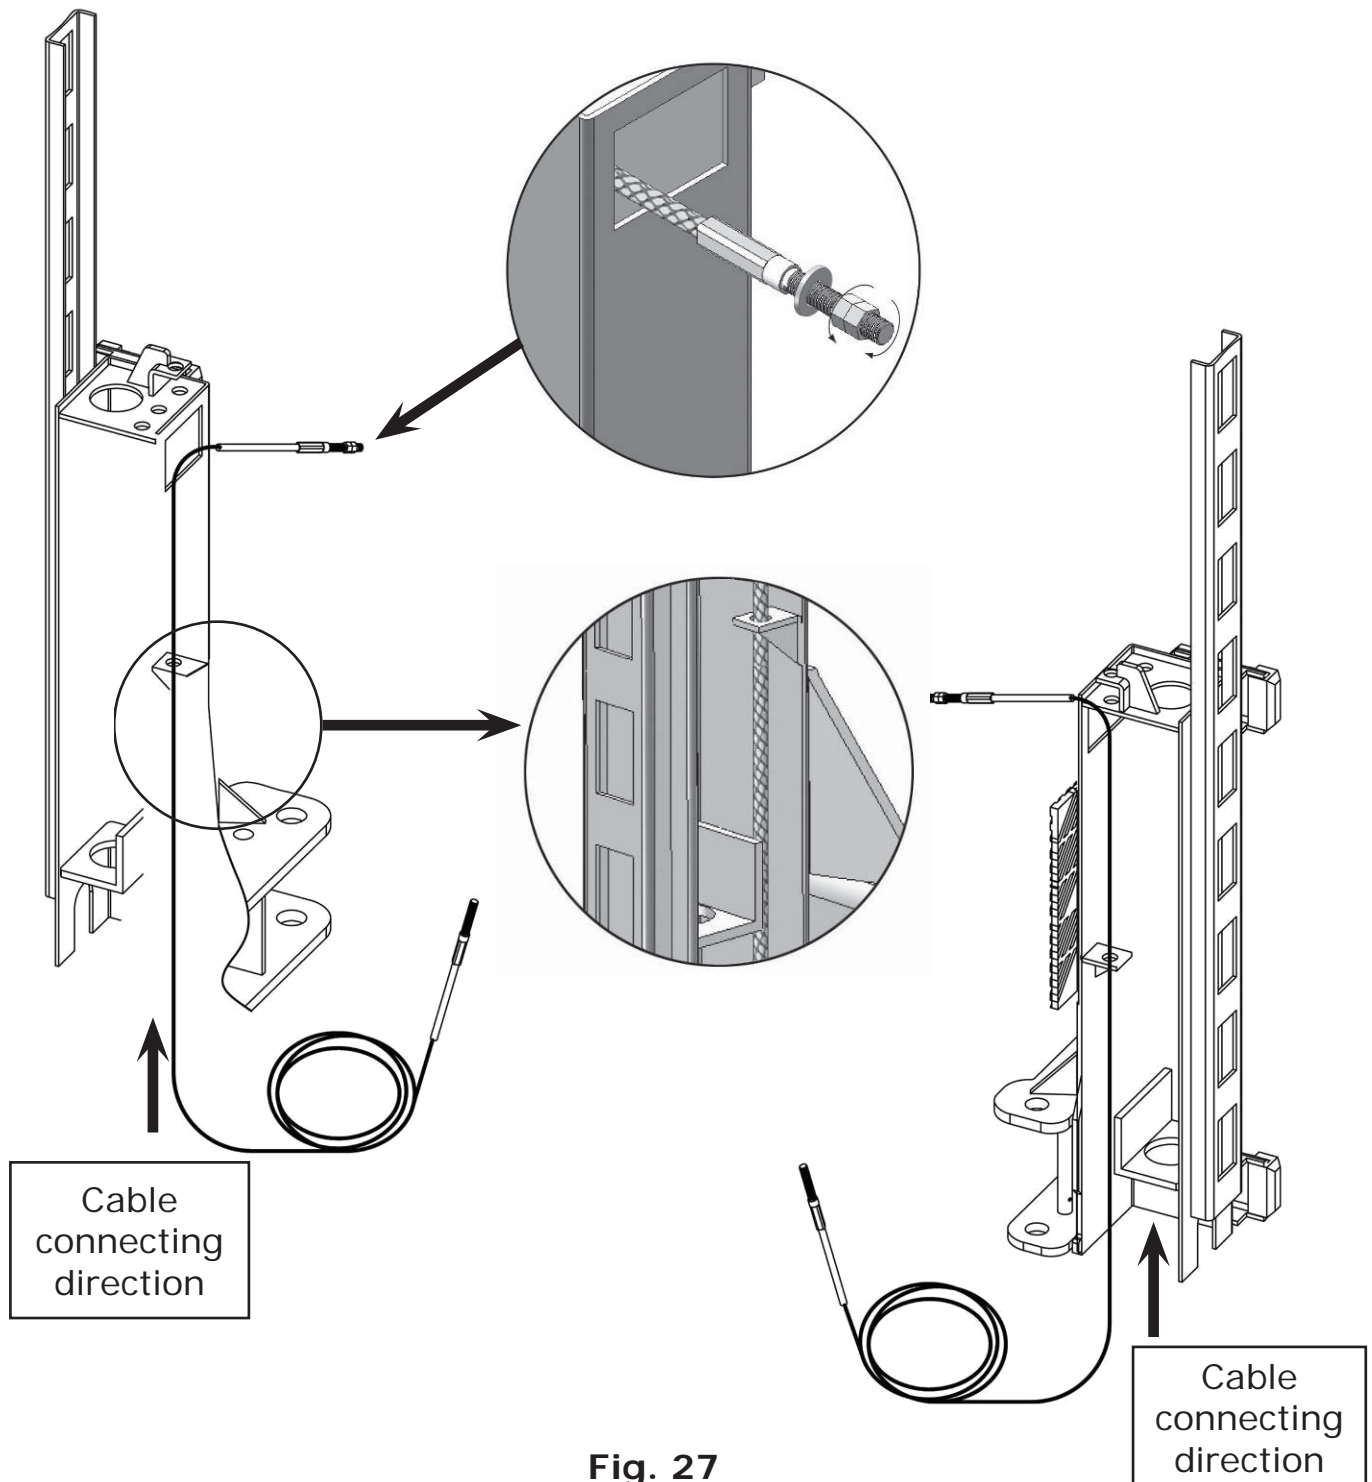

Fig. 27
1.1 Take out the carriages' plastic covers, cable passes through from the bottom of the carriages and pulled out from the openings of the carriages, then screw the two cable nuts (See Fig. 27).